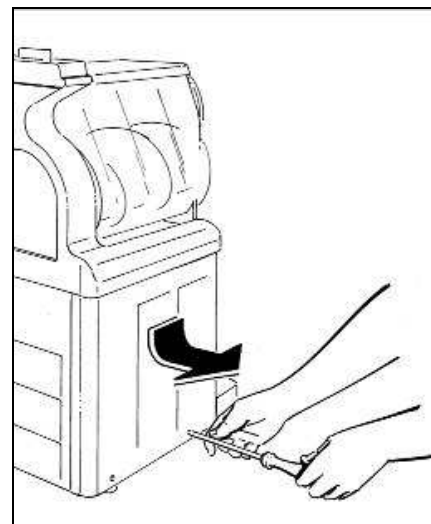

Fig. 29
-GT2 machine: remove the left side panel by unscrewing the two bolts fastening it (fig.29);